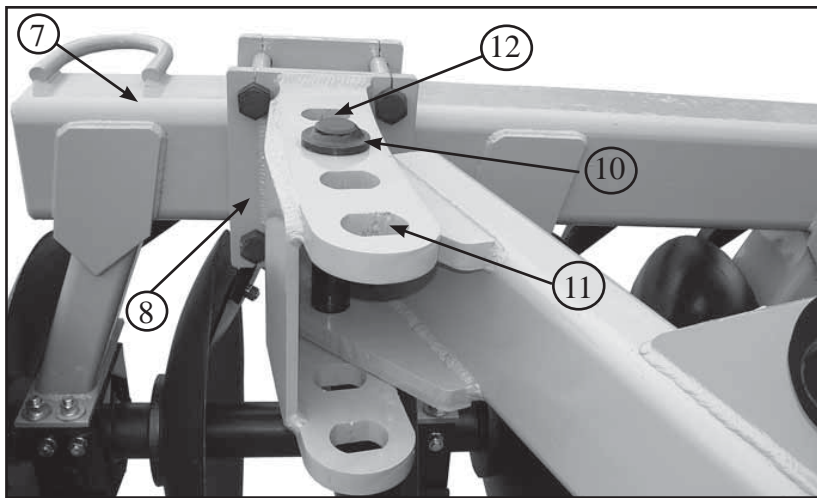

Figure 17 - R.H. Rear Hinge Assembly
4.6 LATERAL ADJUSTMENT (Rear Gangs Figure 17 & 23)